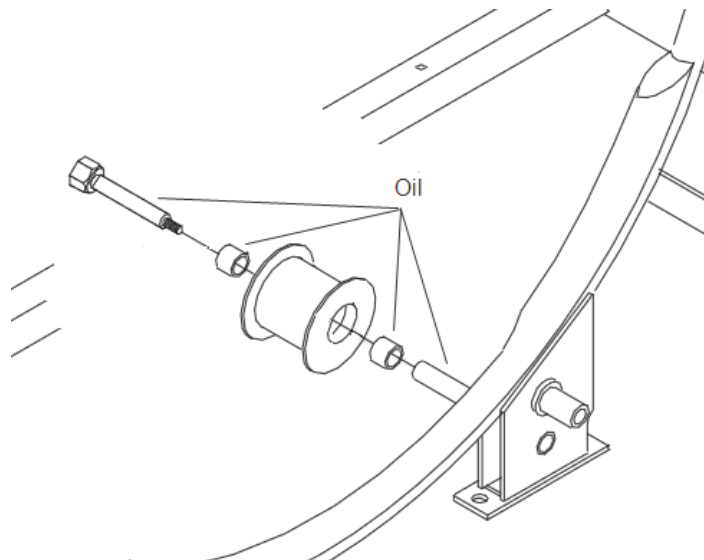

Figure 2
9. Install new guide roller assembly on pinsetter. *See figure 2 *Different serial number pinsetters may have different hardware. Make note of your hardware configuration upon disassembly.*